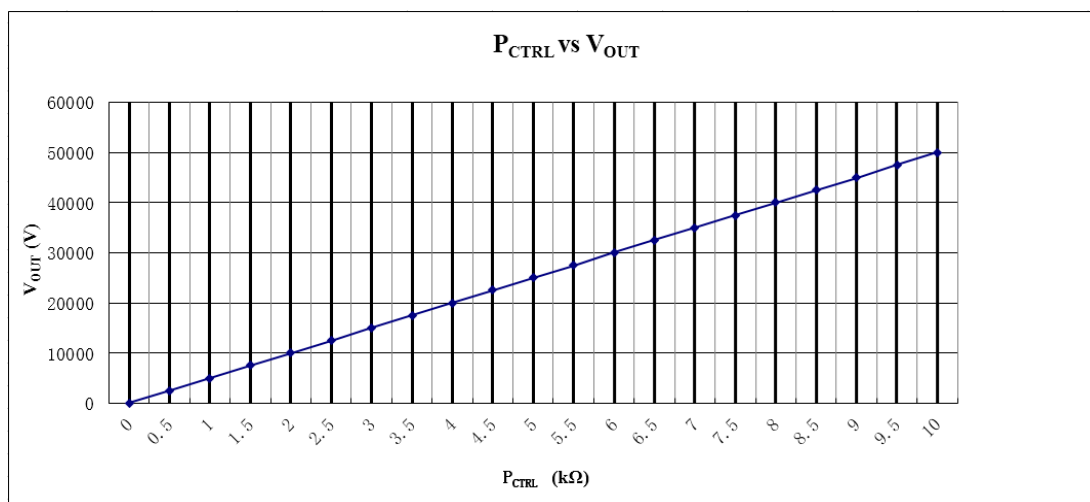

Figure 4. P_CTRL vs. V_OUT
5. HV adjustment: 10-turn potentiometer for adjusting output voltage. Rotate it clockwise to increase the output voltage, and the potentiometer resistance = the corresponding scale \times 10 Ω . For example, as Figure 4 shows, when the scale is 10, and the frame above the scale shows 1 (1k Ω), then the resistance = $10 \times 10\Omega + 1k\Omega = 1.1k\Omega$, and the like.